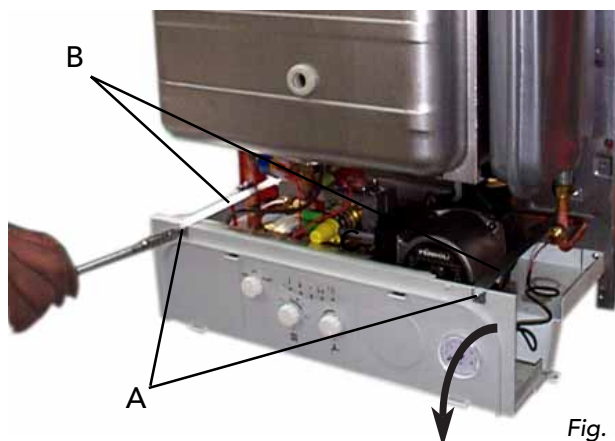

Fig. 35
7.03 To lower the control panel (fig. 35)
- Remove the two fixing screw (fig. 35) "A"